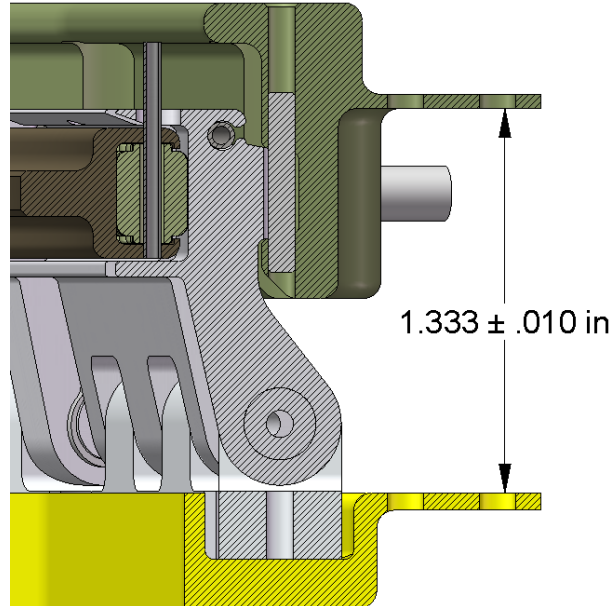

Figure 8-7: Lightband pre-Stow distance
8.1.14	<p>Once the minimum compressive force has been applied, verify the Lightband is properly compressed. Figure 8-7 shows a cross section of the Stowed Lightband. Verify the pre-Stow flange distance in at least 6 locations evenly spaced around the Lightband.</p> <p>If any measurement is not in specification verify proper alignment and compressive force. The force center may to be translated slightly to better align with the Separation Springs' net center of force. Increase compressive force as necessary, up to the maximum allowable per Step 8.1.13, until all measurements are in specification</p>